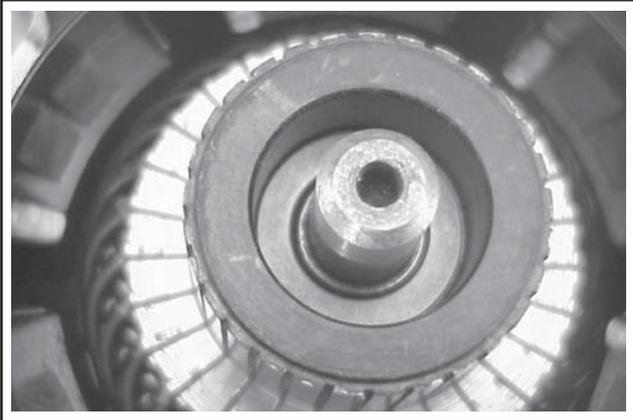

Figure 8-37. Installing Thrust Washer.
9. Install the flat thrust washer onto the commutator end of the armature shaft. See Figure 8-37.